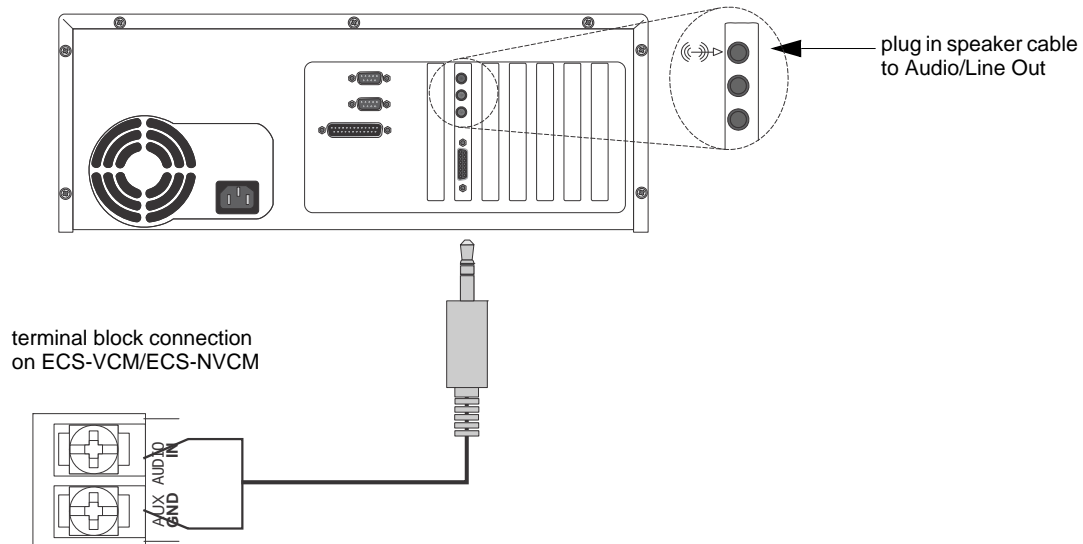

Figure 10.5 AUX Audio Connection for Recording
1. Wire a speaker cable with 1/8" mini plug to Aux AUDIO GND and IN terminals. See Figure 10.5 below.